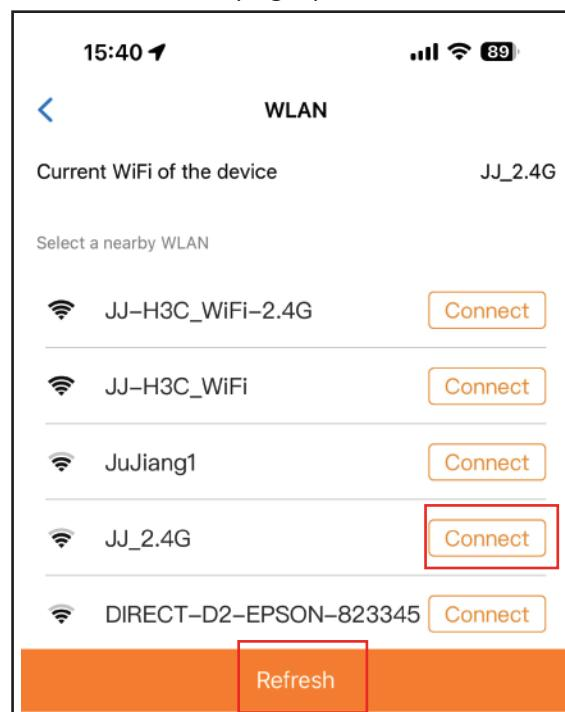

Fig 8
Step 2. Select the new WiFi and connect it. And click the "Refresh". (Fig 8)